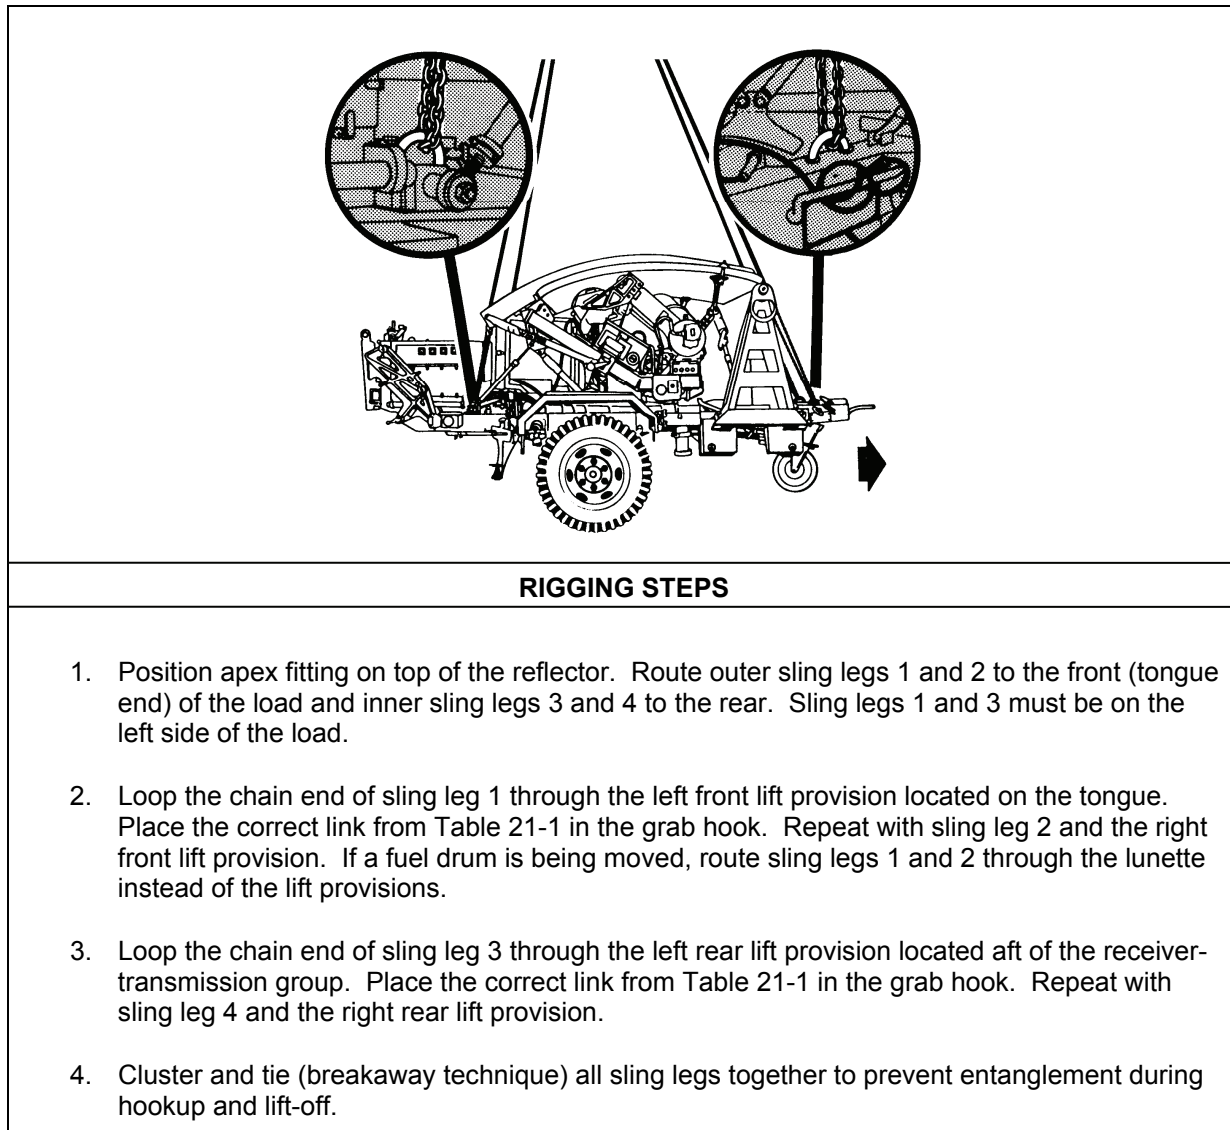

Figure 21-1. AN/MPQ-4A Radar Set
- **Rigging.** Rig the load according to the steps in Figure 21-1.